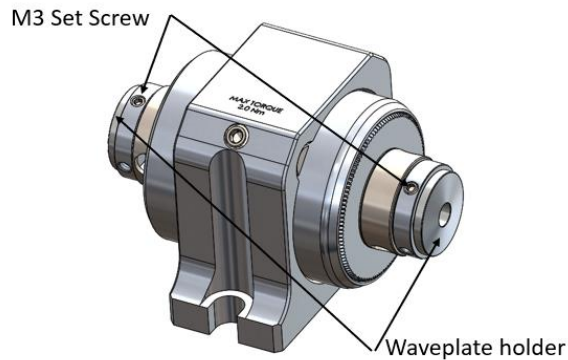

Figure 4: Waveplate Tuning
- Loosen the set screw of the associated waveplate holder with an M1.5 hex wrench (Figure 4).